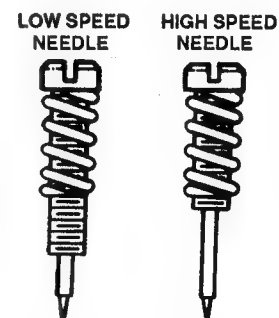

FIGURE 23
9. Remove high and low speed needles, inspect tips for damage. Reinstall the high speed needle one turn from seat, and the low speed needle 1-1/4 turns out from seat. **DO NOT** wind the needles tight when seating. Damage to tips will result. See Figure 23.